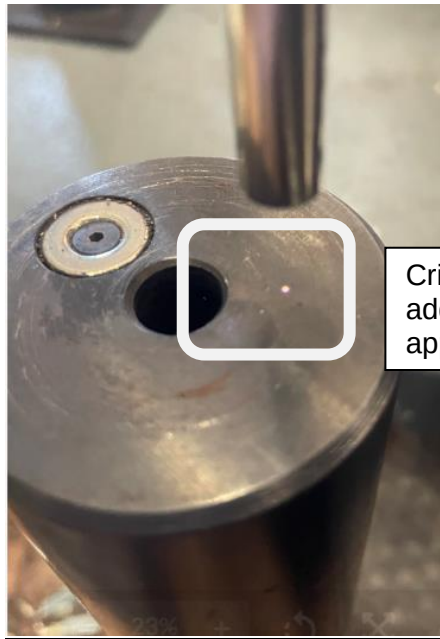

Figure 52: White Dot Test
- 8.3.4.2.** Remove the dust cap from the sensor and perform the white dot test on any matte surface as shown in Figure 52: White Dot Test